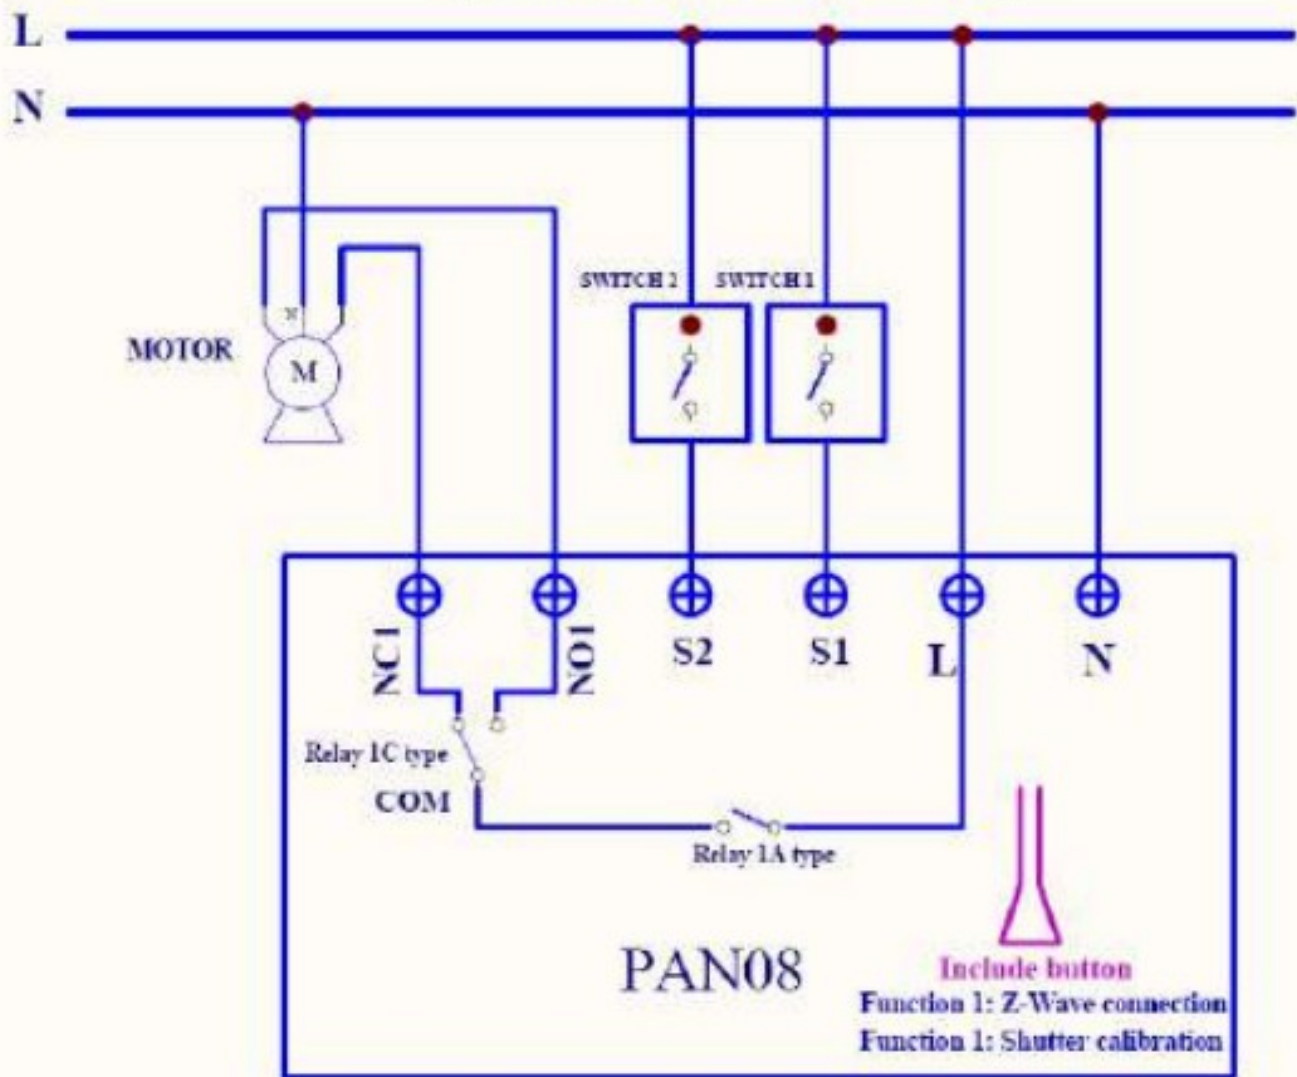

Fig 1. Assembling
2. Connect the wall switch to the PAN08 as Fig1